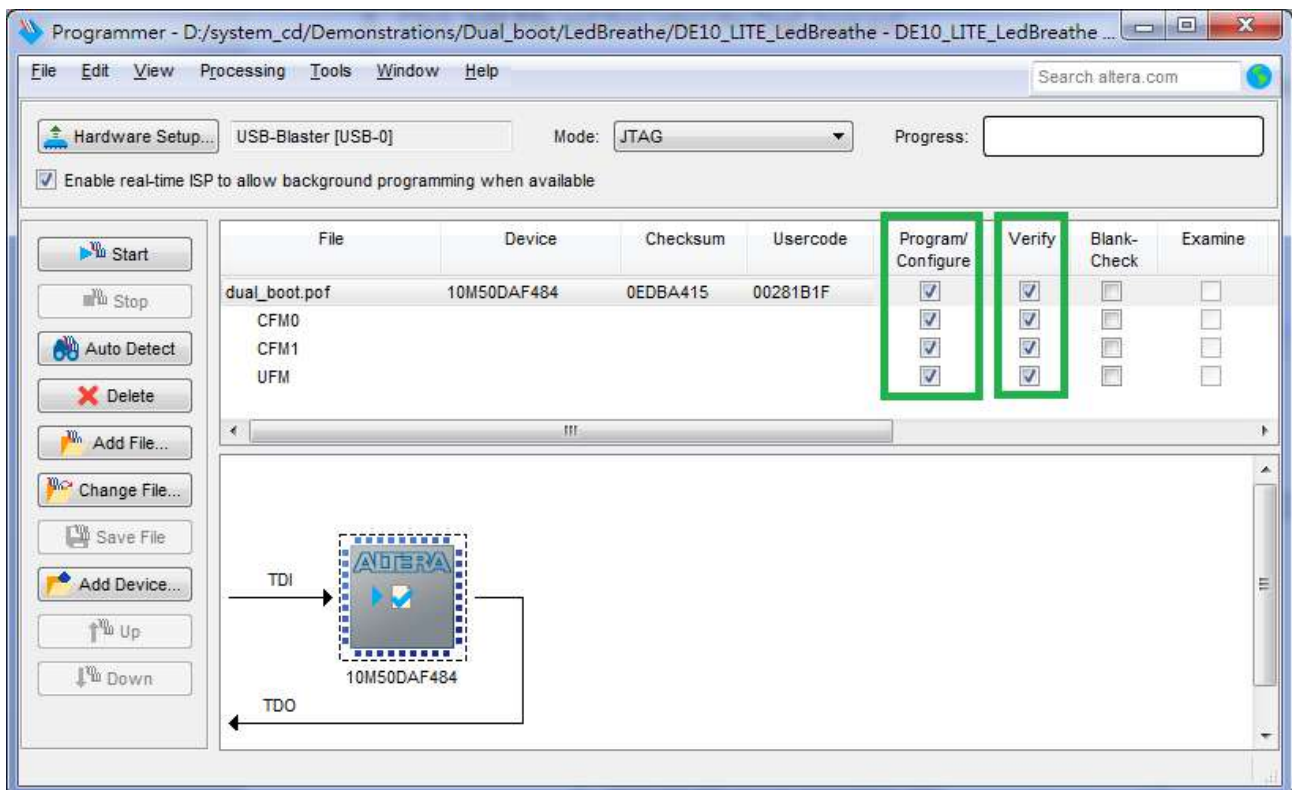

Figure 6-17 Programmer window with dual_boot.pof file
4. Program the **CFM** device by clicking the corresponding **Program/Configure** and **Verify** box, as shown in **Figure 6-17**.